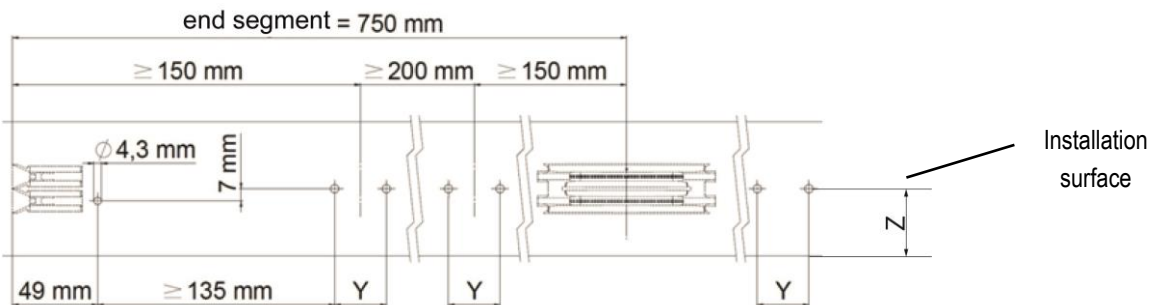
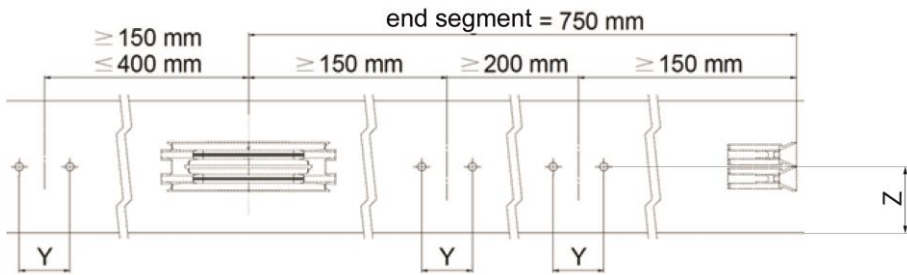

Fig. 17: Holes for the first section of the conductor rail system
Fig. 19: Holes for the end section of the conductor rail system
- Drilling the fastening holes for end cap base holes, see Fig. 17
- Drill the holes for the expanding rivets (see Fig. 17 until Fig. 19). Refer to Table 1 for the correct drill hole.